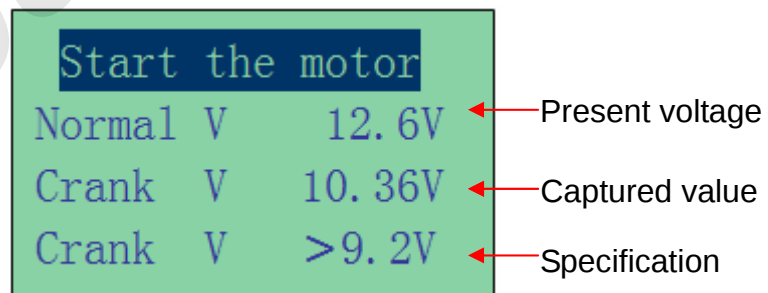

Figure 26
1. From the main MENU, select 'Cranking' by scrolling down using  key. (Fig.26)
2. Press  key to continue and the display will show: (Fig.26)